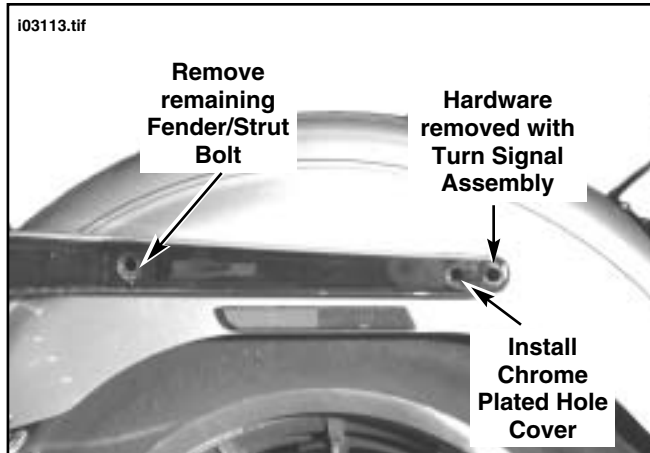

Figure 3. Remove Remaining Strut Hardware
- See Figure 3. Remove remaining bolt (from inside fender) securing strut to fender.